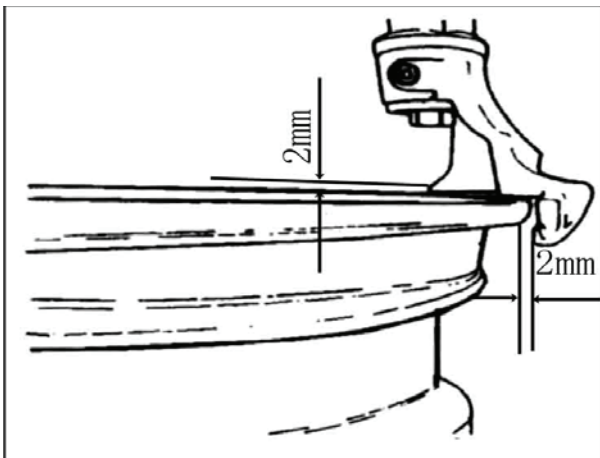

FIG 19
STEP 3: Position the hexangular shaft (Fig 2-3) to the working position to make the dismounting head close to the rim of the wheel. Use the hand wheel (Fig 7-2) to push against the rocker arm and then use the lock handle (Fig 2-12) to lock. The dismounting head will automatically move slightly (Fig 19). The angle of the dismounting head has been designed according to the standard wheel (13"). If handling a larger or smaller wheel, you may need to reposition the head.